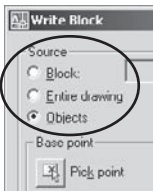

Figure 1.16
**WBLOCK** WBLOCK is a save command. It lets you save part of an existing drawing, using one of three methods. Select the option you want from the dialog box, as shown in Figure 1.16. Because dialog boxes can't be used in AutoLISP programs, you should know the command sequence for WBLOCK. When issued from the command line with FILEDIA turned off, the -WBLOCK command allows you to make the same selections. See Chapter 5, "Symbols, Tables, and Fields," for more information on the WBLOCK command.